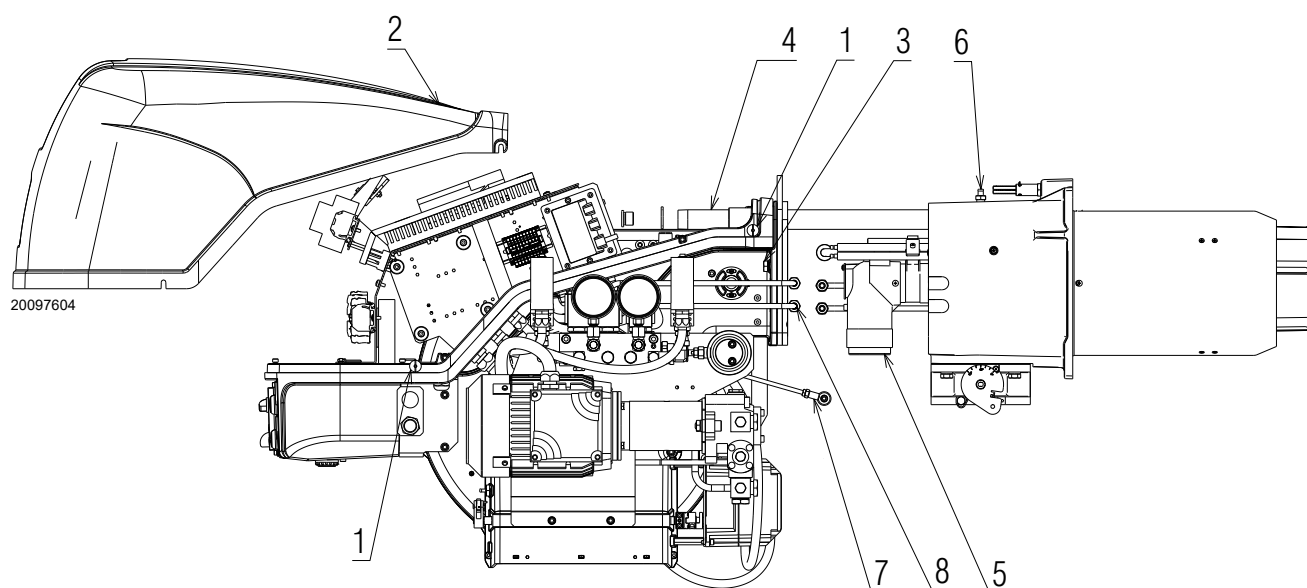

Fig. 58
Open the burner and make sure that all components of the combustion head are in good condition, not deformed by the high temperatures, free of impurities from the surroundings and correctly positioned. If in doubt, disassemble the elbow fitting 7)(Fig. 58, page 44).
- Loosen screws 1)(Fig. 58) and with draw the cover 2);
- refit screws 3)(Fig. 58) and pull the leads gently out until they are slightly stretched;